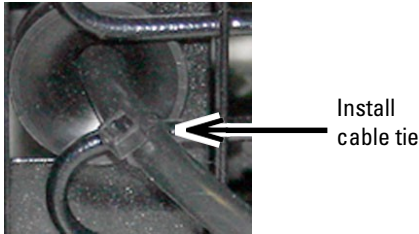

Figure 28: Install cable tie to secure power cord
23. Install the cable tie to secure the power cord that runs through the refrigeration assembly (Figure 28). Ensure the slack in the power cord is removed before securing refrigeration module frame.